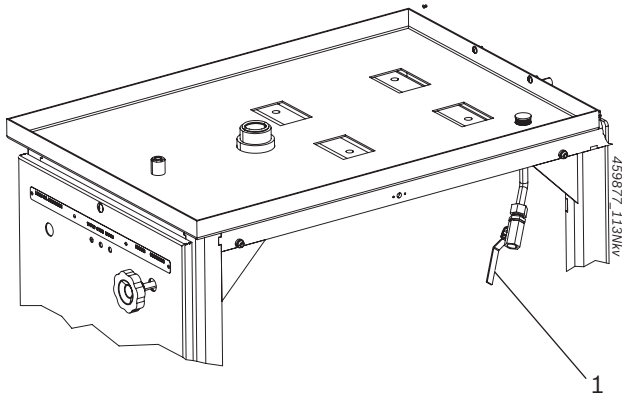

Fig. 18: Opening the ball valve
4. Open the ball valve (Fig. 18, Pos. 1) to drain the contaminated oil.